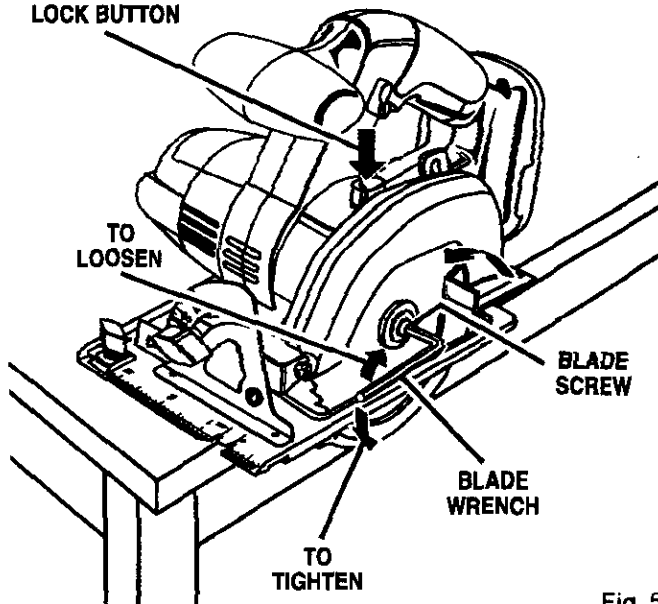

Fig. 5
See Figure 5.
- Position saw as shown in figure 5, depress spindle lock button, and remove blade screw.